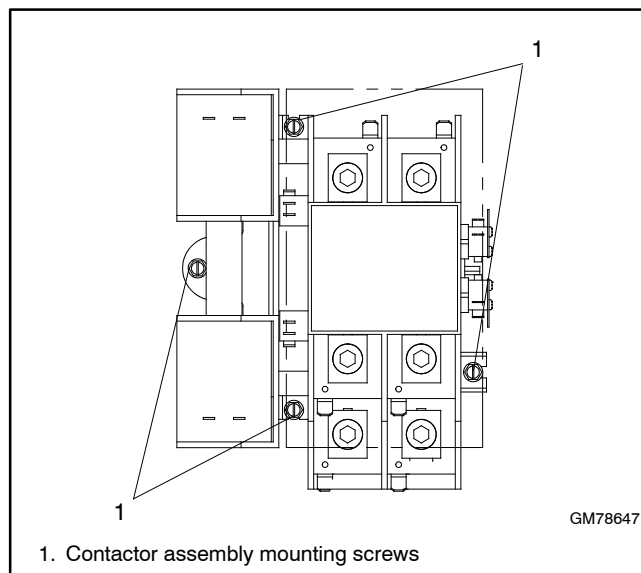
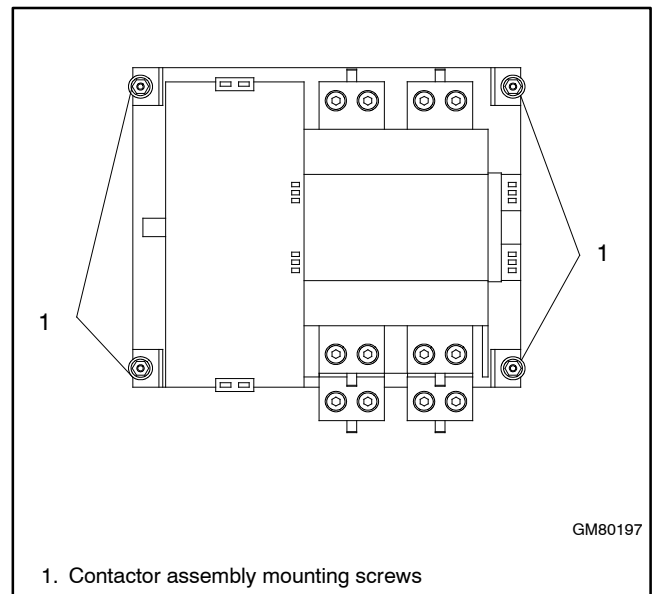

Figure 7-4 Contactor Mounting Screws, 100- 200 Amp Models, Typical
Figure 7-5 Contactor Mounting Screws, 300/400 Amp Models
4. Support the contactor and remove the screws located at the corners of the contactor's base that secure the contactor assembly to the back wall of the enclosure. See Figure 7-4 or Figure 7-5.